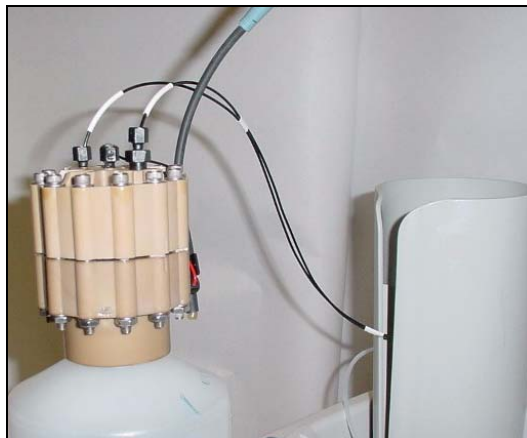

Figure B-80. EluGen Cartridge Port Connections
4. Connect the **EGC IN** line to the EluGen cartridge **INLET** port (see Figure B-80).